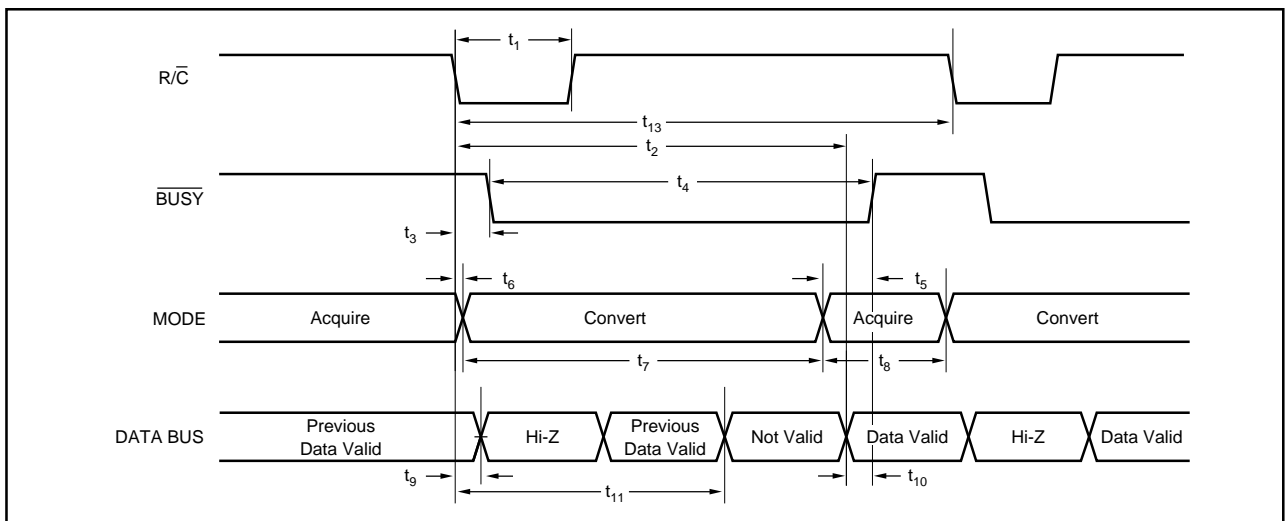

FIGURE 3. Conversion Timing with Outputs Enabled after Conversion (\overline{CS} Tied LOW.)
Table II for a summary of \overline{CS} , $\overline{R/\overline{C}}$, and \overline{BUSY} states and Figures 3 through 5 for timing diagrams.
NOTE: (1) See Figures 3 and 4 for constraints on data valid from conversion "n-1".
After conversion 'n' is completed and the output registers have been updated, \overline{BUSY} (pin 26) will go HIGH. Valid data from conversion 'n' will be available on D15-D0 (pin 6-13 and 15-22). \overline{BUSY} going HIGH can be used to latch the data. Refer to Table IV and Figures 3 and 5 for timing specifications.
After conversion 'n' has been initiated, valid data from conversion 'n-1' can be read and will be valid up to $7\mu s$ after the start of conversion 'n'. Do not attempt to read data from $7\mu s$ after the start of conversion 'n' until \overline{BUSY} (pin 26) goes HIGH; this may result in reading invalid data. Refer to Table IV and Figures 3 and 5 for timing specifications.
The number of control lines can be reduced by tying \overline{CS} LOW while using R/\overline{C} to initiate conversions and activate the output mode of the converter. See Figure 3.